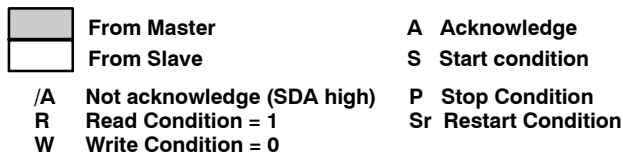

Figure 13. I²C Read Cycle
The transmitting device must not drive the SDA signal during the acknowledge cycle so that the receiving device may drive the SDA signal low. The master indicates a not acknowledge condition (NACK) by keeping the SDA signal high just before it asserts the stop condition (P). This sequence terminates a read cycle (see Figure 13).